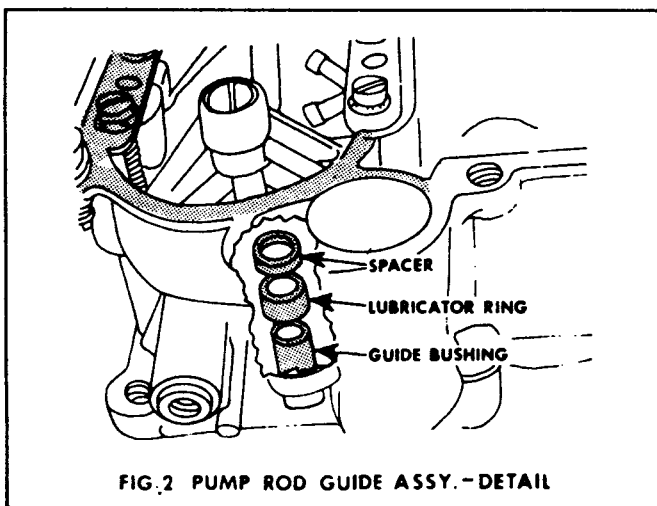

FIG. 2 PUMP ROD GUIDE ASSY.—DETAIL
1. Detach pump connecting link (BH) upper end by removing shoulder screw (BJ) and lower end by removing retainer clip (BL).
2. Carefully lift out pump assembly (AF) as a unit. Separate as follows: Depress spring retainer (Z) and spring (AC), slide off connecting rod (AB) releasing spring (AC) then slide spring from pump piston staff (AG). Remaining pump piston cup (AK) can then be forced off piston staff (AG). From inside pump chamber remove ball check retainer (AM) and ball check (AN).
3. To remove guide assembly (AV) (See Fig. 2) first, remove staking using a sharp tool then carefully lift out spacer (Fig. 1, AU) and lubricator ring (AW).